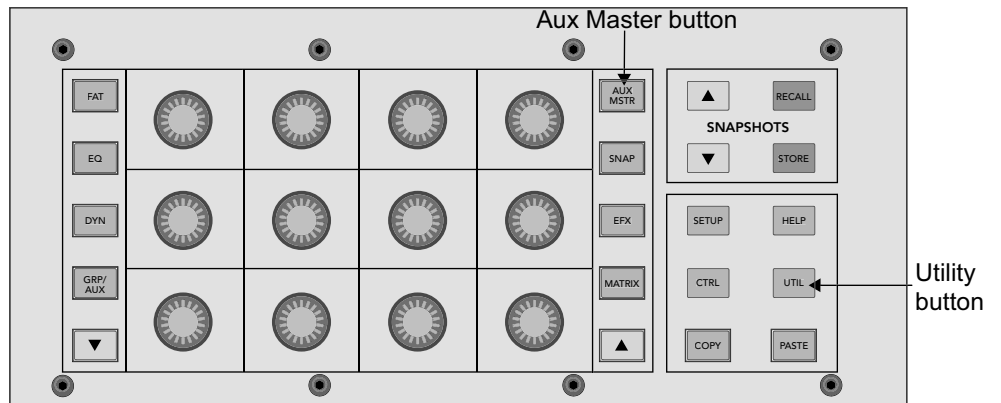

Figure 2-4 QuickMix area
15. Press the **AUX MSTR** QuickMix button (Figure 2-4).
2. Press the **UTIL** button (Figure 2-4).
1. Press the **AUX MSTR** button (Figure 2-4) to display the AUX MASTER Touchscreen.